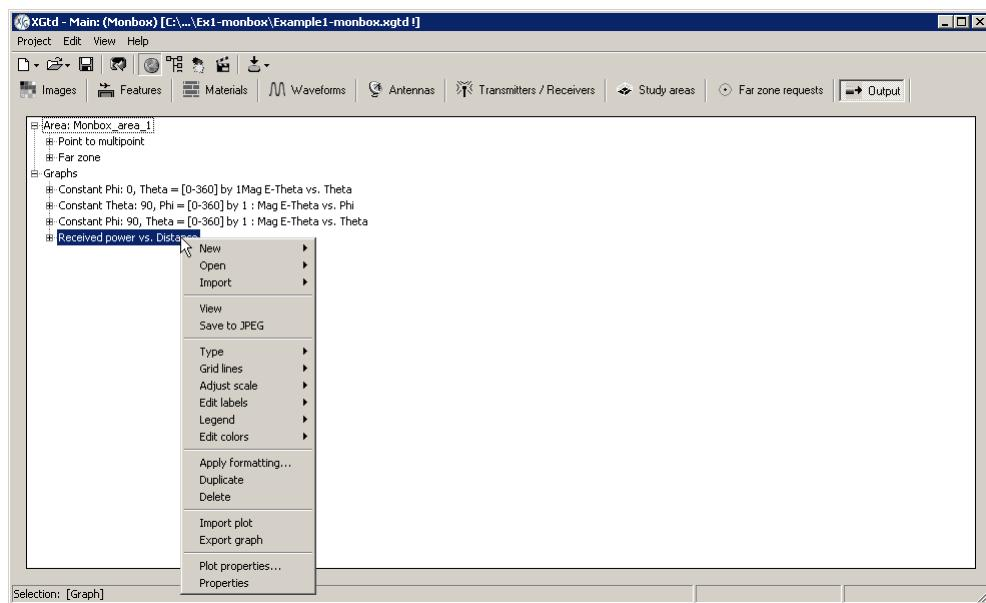
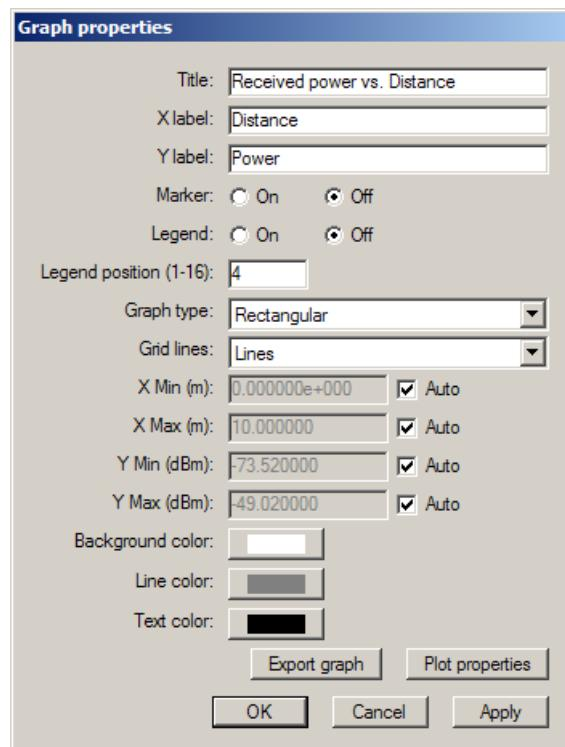

Figure 12.21: Selecting Graph Properties
Figure 12.22: The Graph Properties Window
After a graph is created, there are several options for controlling its display. These options are accessible under the **OUTPUT** tab in the context menu of a graph, as shown in Figure 12.21. It is also possible to edit the graph through the **PROPERTIES** Window, shown in Figure 12.22.
- *Properties* - Summarizes all of the controls described above in one window (Figure 12.22). It allows the user to APPLY the effects of their changes for immediate review.